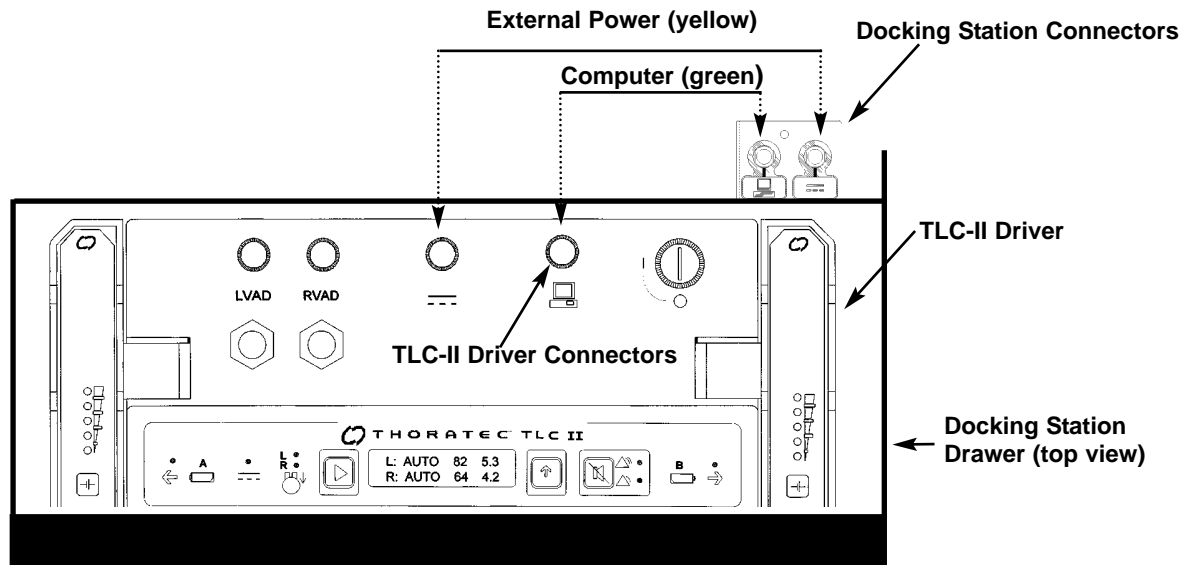

Figure 4.2 TLC-II Driver and Docking Station Connectors (see also Figure 2.10)
4.2.3 Connect the power cable (color coded yellow) from the TLC-II to the Docking Station connector (**Figure 4.2**).
- 4.2.4 Connect the computer cable (color coded green) from the TLC-II to the Docking Station connector (**Figure 4.2**).